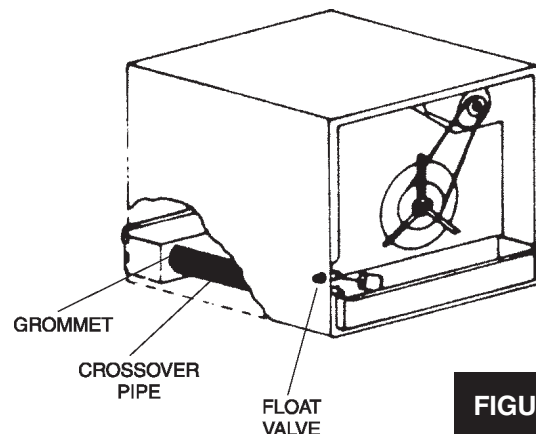

FIGURE 12
2. Put in the float valve side tray first. The crossover tube & grommet **MUST** be on the float valve side. (Fig. 12)